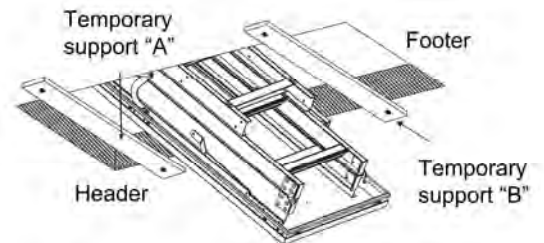

FIGURE 10 : PLACING THE ATTIC LADDER INTO THE ROUGH OPENING
H. Both installers need to work together to position the attic ladder on the temporary support boards. When installer #2 is in the attic and ready to assist. Installer #1 will raise the attic ladder into the rough opening. See **Figure 10**. You must not climb a ladder while lifting the attic ladder into the rough opening or you could fall. If the ceiling height or weight of the attic ladder makes lifting difficult or impractical, secure a rope to the attic ladder so Installer #2 can assist by pulling on the rope to raise the attic ladder into rough opening and placing it on the temporary support boards.